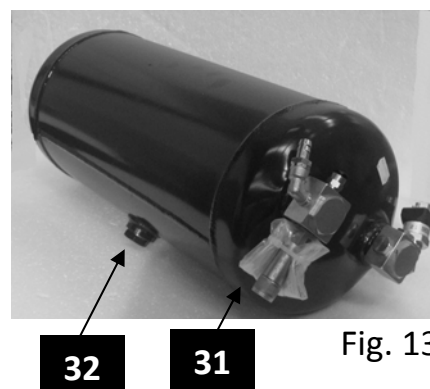

Fig. 13
1. Read the data engraved upon the tank or contained on its data plate. The tank may not be used with pressure (PS), maximum temperature (Tmax) and minimum temperature (Tmin) values beyond those which are indicated on the data plate.
6. The user must keep the tank properly purged: The condensation must be drained once a year by unscrewing the drain cap beneath the tank Fig 1- Fig.13 pos.32. This operation must be carried out after the tank has been depressurised.
PERIODIC INSPECTION OF THE SAFETY VALVE (Fig.13 pos.31)